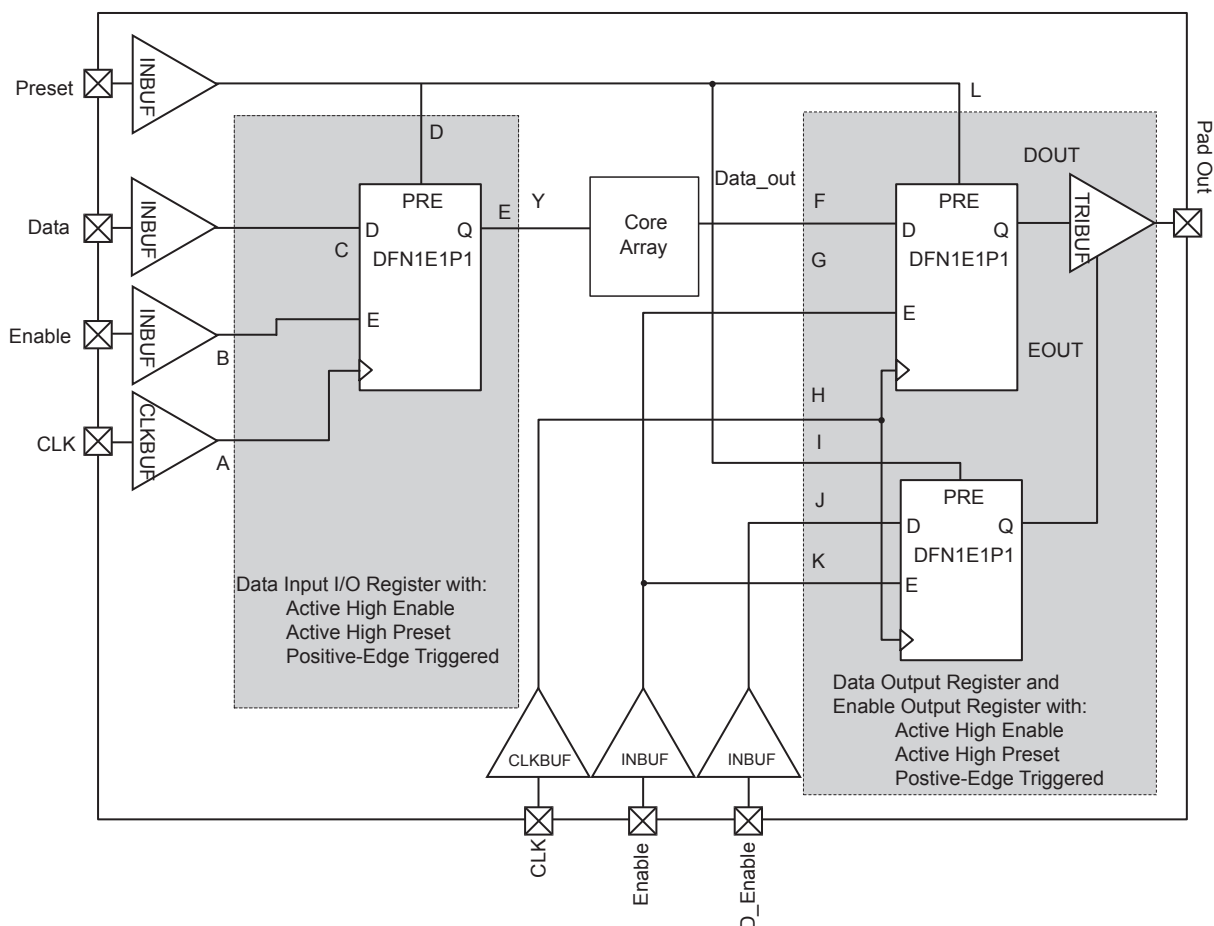

**Figure 2-26 • Timing Model of Registered I/O Buffers with Synchronous Enable and Asynchronous Preset**
*Note:* See Figure 2-26 on page 2-66 for more information.